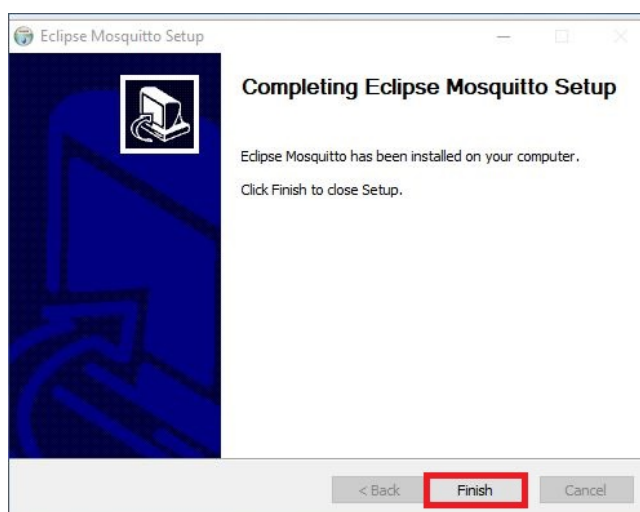

Figure 4.8: End of Fast Mode installation
8. Click "Finish" to complete the installation of Fast Mode, as shown in Figure 4.8.